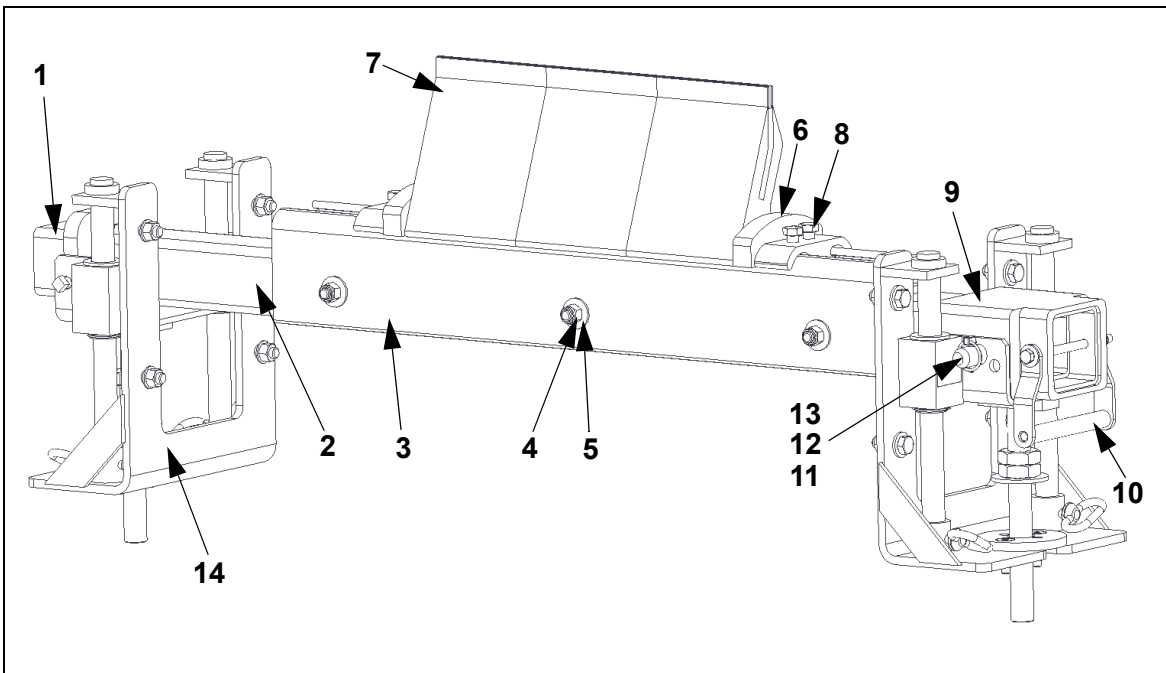

Abb. 20: MARTIN® DT2H main scraper
1. Move the tensioner in completely. Next, pull out the locking pin (Fig. 20, 1), which locks the scraper blade cartridge at the operator side of the shaft. Pull at the grip (Fig. 20, 2) in order to remove scraper blade cartridge from the shaft and from the installation console. Pull out the scraper blade cartridge completely from the shaft. Place the cartridge on a level and stable surface.